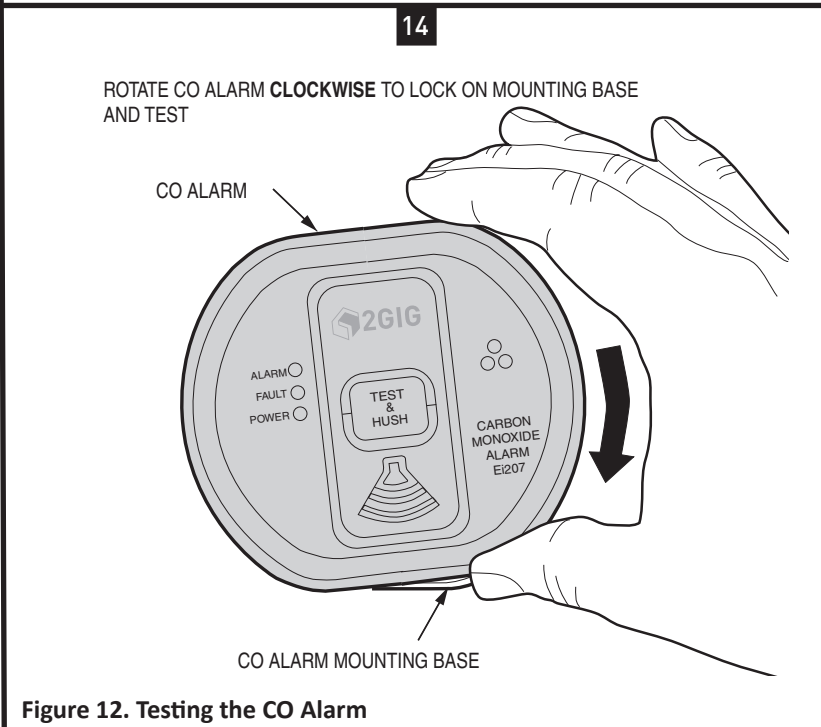

Figure 12. Testing the CO Alarm
Frequent testing of the Alarm is a requirement to ensure its power is present and the Alarm is functioning. The 2GIG-C08E-345 Carbon Monoxide Alarm can be tested by rotating the Alarm clockwise on the mounting base (Figure 12). This activates the on/ off switch. The (3) three indicator lights will immediately flash in sequence to show that they are working. Wait 15 seconds after connecting the power before button testing. The power light is not illuminated during standby. It will flash green when the test button is pressed to indicate that power is present and alarm is functioning.